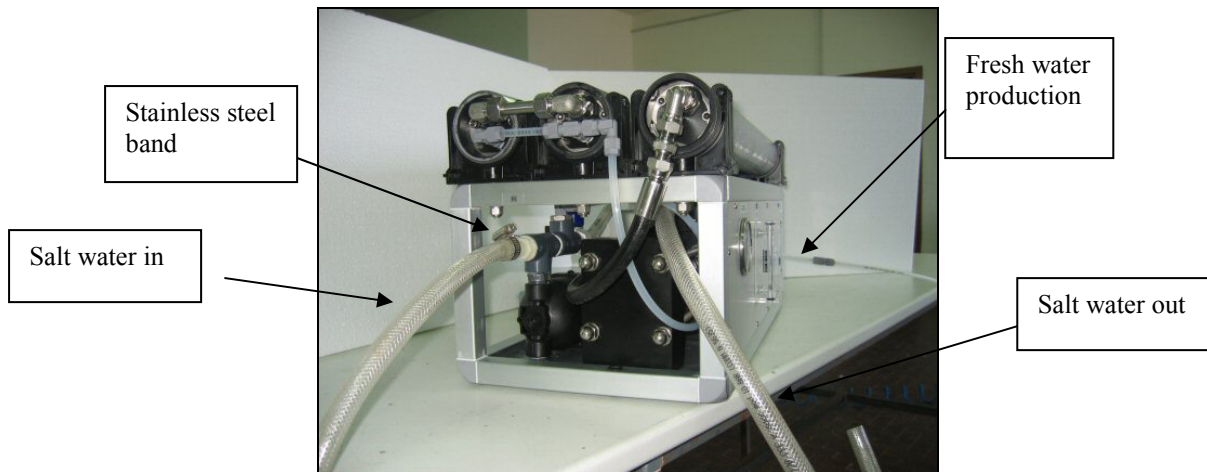

Fig. 1
- 1) Remove the in and out sea water stainless steel bands; remove the 8x6 fitting connected to the fresh water production (Fig.1);